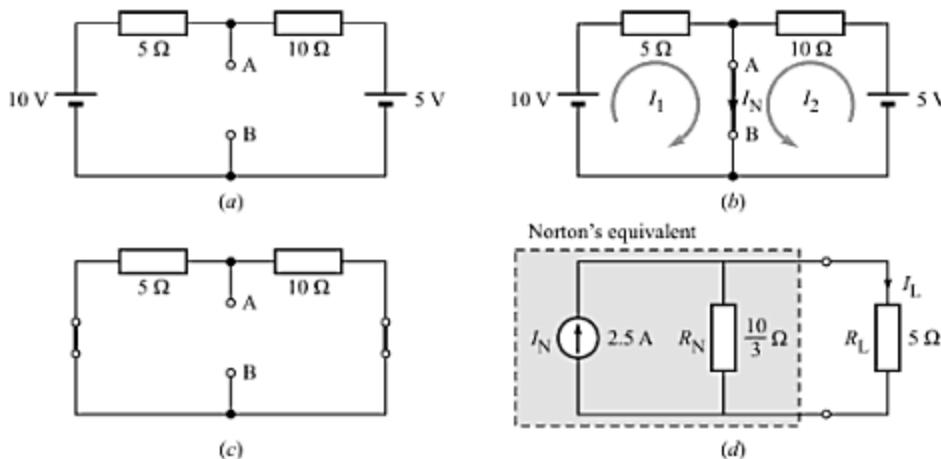

Fig. 4.11
**Proof of the Theorem** As per Thevenin's theorem, a two-terminal network can be converted into a single voltage source  $V_{Th}$  in series with resistance  $R_{Th}$  (Fig. 4.11). Let us find such a value of  $R_L$  that